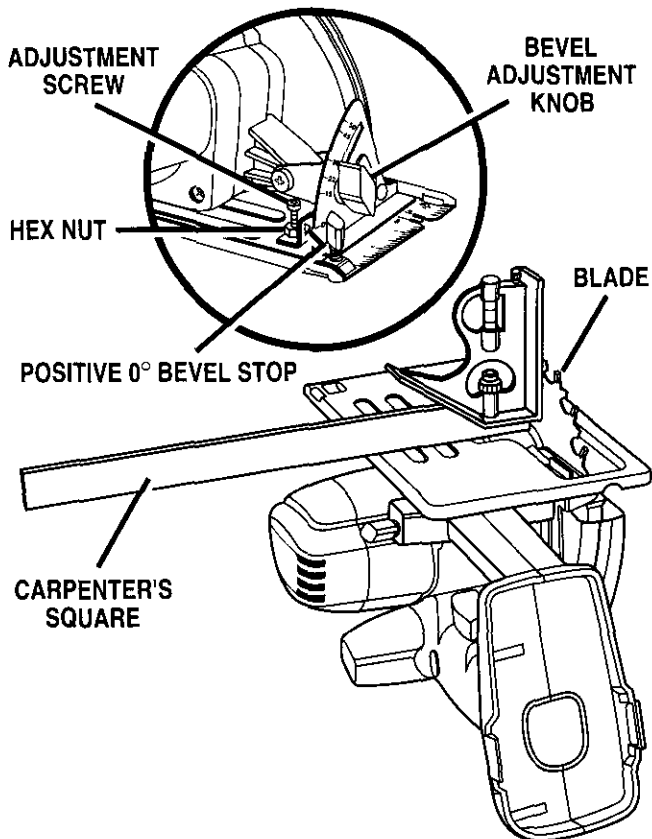

Fig. 23
See Figure 23.
- Place your saw in an upside down position on workbench. See Figure 23.